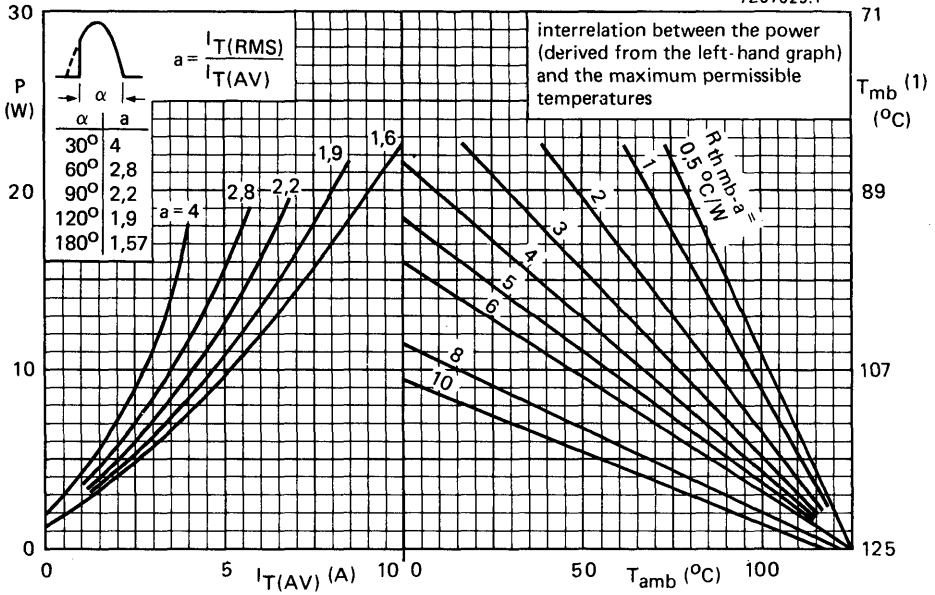

Fig. 3 (1) T_{mb} -scale is for comparison purposes only and is correct only for $R_{thmb-a} \leq 6 \text{ } ^\circ\text{C/W}$.
* To ensure thermal stability: $R_{th j-a} < 4$ °C/W (d.c. blocking) or < 8 °C/W (a.c.). For smaller heatsinks T_{jmax} should be derated. For a.c. see Fig. 3.